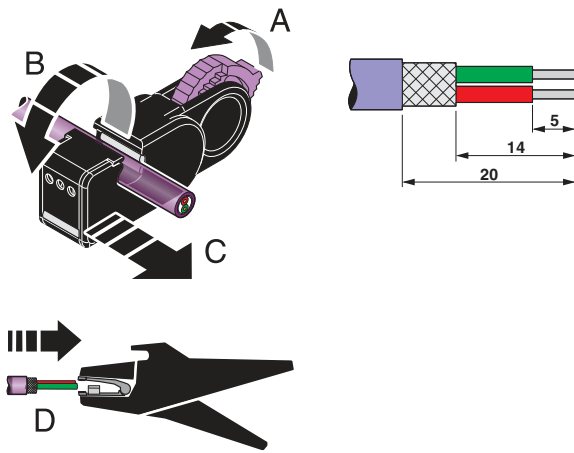

Figure 10 Stripping
- Strip off the conductors (see Figure 10).